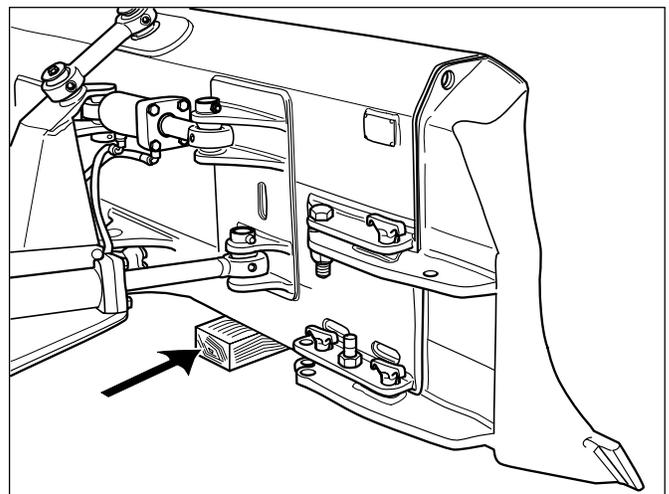

FIGURE 5.3C
- Place a wood blocks below the blade, equally separated (about one meter (3 ft)) from the center of the blade, and slowly lower the blade onto the wood blocks. See Fig. 5.3C as reference.